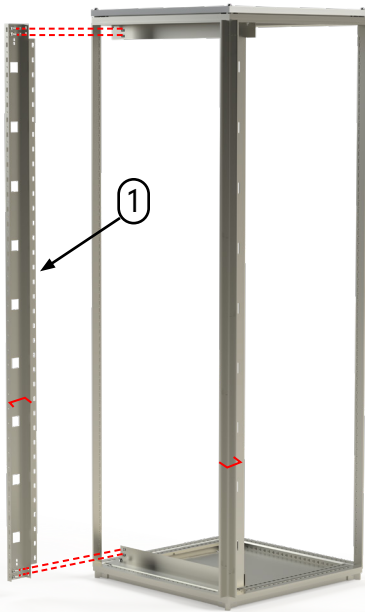

Figure 4
- Secure the uprights to the horizontal rails through the previously installed flanged cage nuts. See Figures 4 & 5.
- Ensure the channel opening of the vertical uprights face internally (Figure 4, outlined in red).
Place each vertical upright with their channel openings facing each other against the horizontal rails. Secure with the specified hardware (Figure 4).